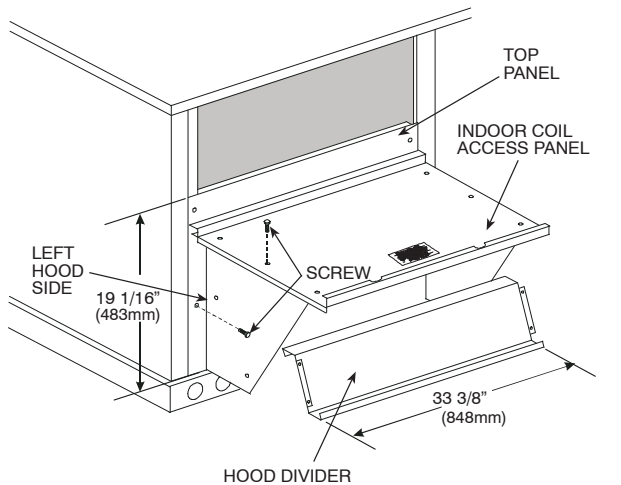

Fig. 11 - Economizer Hood Construction
2. Swing out indoor coil access panel and insert the hood sides under the panel (hood top). Use the screws provided to attach the hood sides to the hood top. Use screws provided to attach the hood sides to the unit. See Fig. 11.
4. Insert the hood divider between the hood sides. See Fig. 11 and 12. Secure hood divider with 2 screws on each hood side. The hood divider is also used as the bottom filter rack for the aluminum filter.